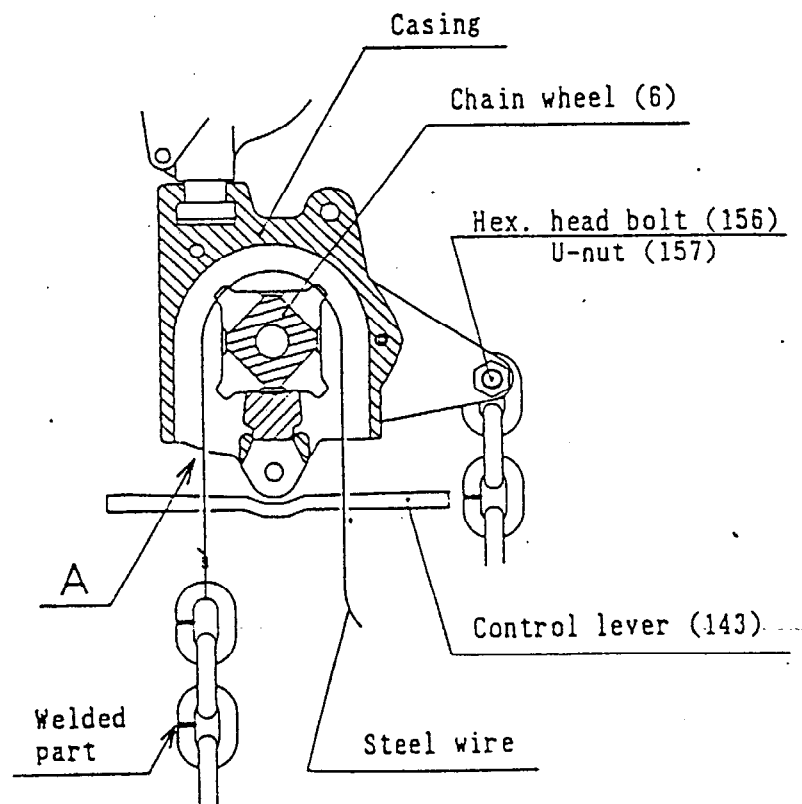

Fig. 16
- ① Before installing the link chain, pass steel wire through casing (1) and (15) and hook case (200) of the 6 ton model.
- ② Suspend the hoist at the height about 1.5 m using a crane, etc. and perform temporary piping. Air pressure is 2.5 ~ 3.5 kgf/cm²G (2.5 ~ 3.5 bar gauge, 35.5~49.5 p.s.i.g.).
■ 3 Ton Model (Fig. 16)
- ① Install the end link of the link chain to the steel wire A on the hoisting side.
- ② Pull the link chain into the casing by pulling the steel wire.